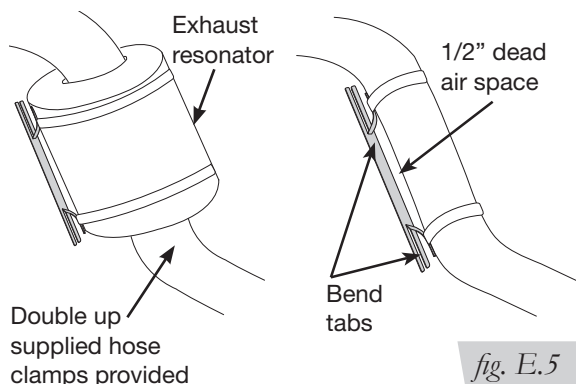

fig. E.5
- Bend tabs to provide a dead air space between exhaust pipe and heat shield (Figs. E.5 & E.6). Attach the heat shield to the exhaust pipe using the clamps. Bend the heat shield for maximum clearance to the air spring.